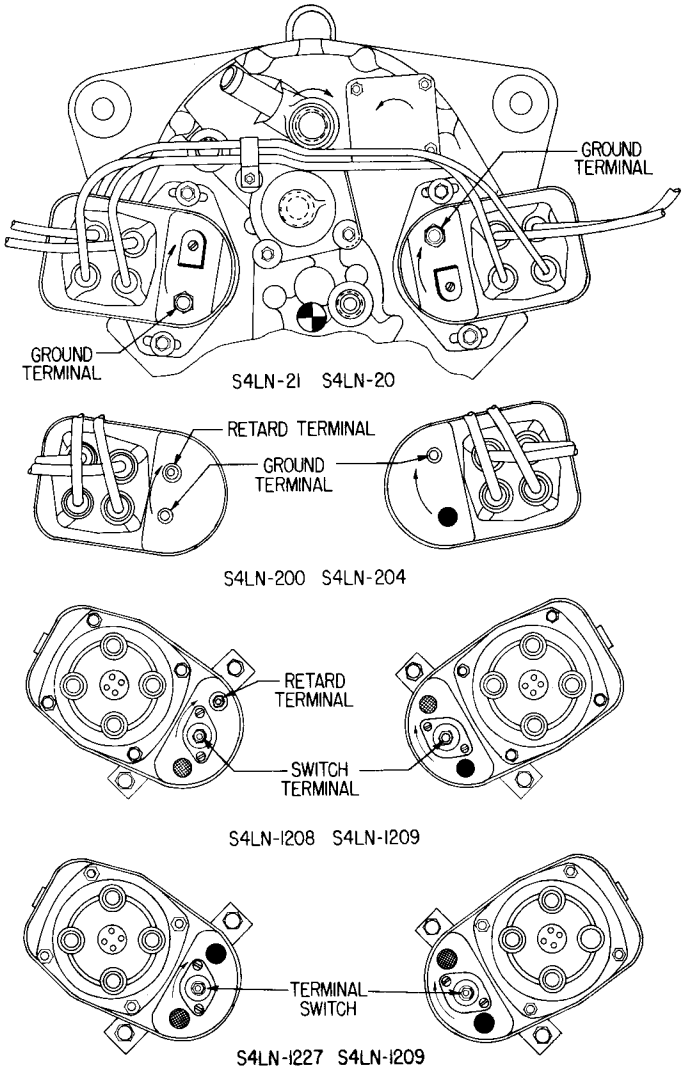

Figure 7-2. Magneto Connections
* SEE FIG. 7-2 FOR MAGNETO CONNECTIONS
**** SEE FIG. 7-2 FOR MAGNETO CONNECTIONS**